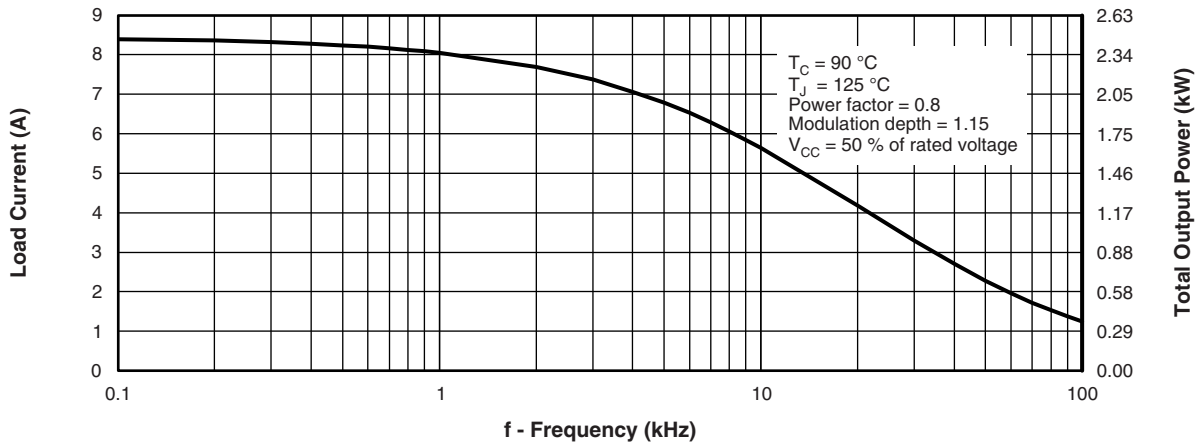

Fig. 1 - Typical Load Current vs. Frequency
| Modulation depth See fig. 1 | 115 % |
- Optimized for medium speed, see fig. 1 for current vs. frequency curve